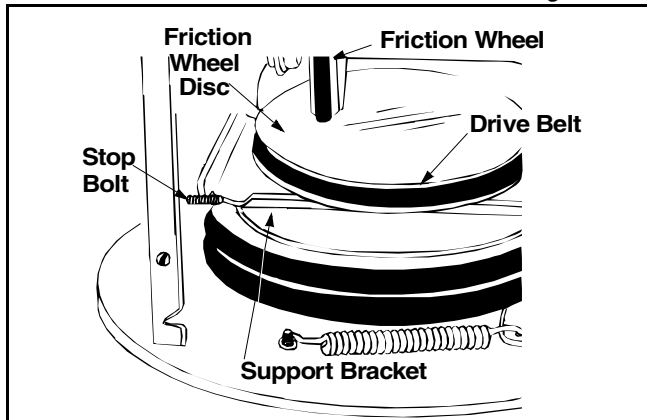

Figure 16
- Back out the stop bolt to allow the belts to slip between the bolt and auger pulley. See Figure 16.
- Back out the stop bolt until the support bracket rests on the auger pulley. See Figure 16.